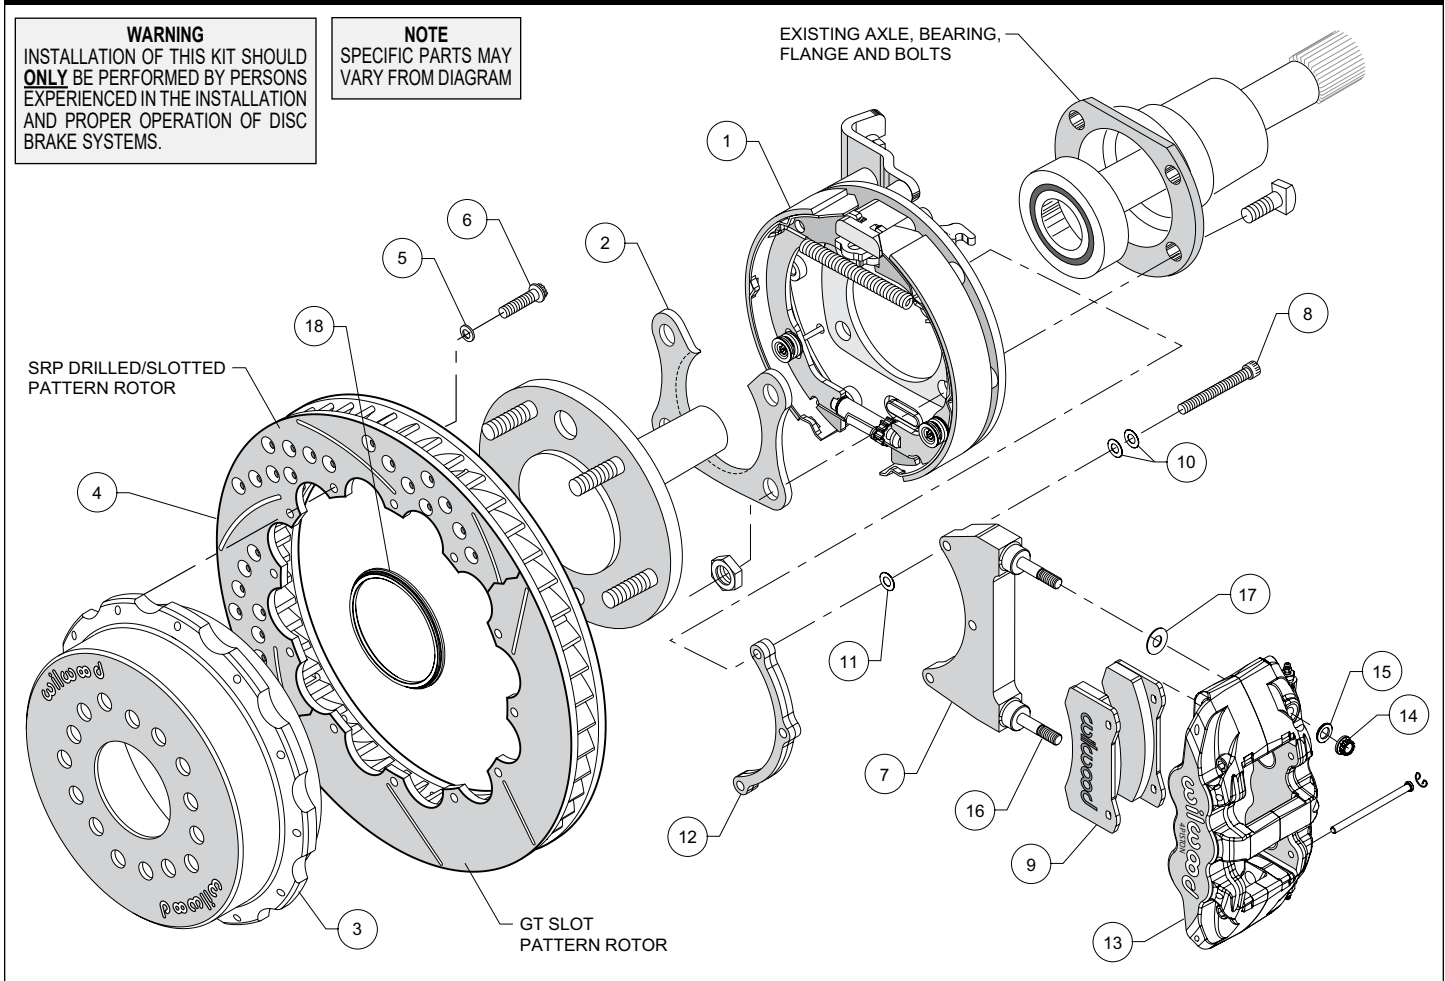

Figure 1. Typical Installation Configuration
- Orient the bracket assembly (1) as shown in Figure 1 and slide it onto the axle. Insert the axle and bracket into the axle housing. Ensure that the bracket assembly backing plate fits flush against the axle housing flange.
- Install the bearing retainer (2) with the opening pointing upward and the lip facing inward (toward the bearing), as shown in Figures 1 and 4. Secure retainer and bracket assembly to the
axle housing flange using the Original Equipment Manufacturer (OEM) bolts and nuts, Figure 1. Apply red *Loctite*® 271 to the OEM bolt threads and torque to OEM specifications.
- NOTE:** Please reference the caution statement at the beginning of the assembly instructions. The caliper mounting bracket assembly (7) should be installed first with clean, dry threads on the mounting bolts (8). Install the bracket from the rear side of the bracket kit assembly (1) by sliding bolt (8) through two flat washers (10) bracket (7), shim washer (11) and finally through the spacer (12), see Figure 1. **NOTE:** End of bolt should not exceed inside face of insert. The bracket must tighten squarely against the back side of the bracket kit assembly (1). Inspect for interference from casting irregularities, machining ridges, burrs, etc. Use one thin shim (11) between the bracket (7) and spacer (12) during initial trial fitting.
- Lubricate caliper mounting studs and nuts with lightweight oil. Install one washer (17) over each pre-installed stud (16) on the radial mount bracket (7). Slide the caliper (13) in place over the studs and rotor, then install the washer (15) and lock nut (14) to hold the caliper in place. The caliper bleed screws should be pointing up. Snug the lock nuts (14) and check that the rotor (4) is centered in the caliper (13). Add or subtract .015" shims (11) as necessary between the caliper mounting bracket (7) and the spacer (12) to center the caliper (9).
- Remove the two pad retaining pins from the caliper (13) by carefully popping out the pin retaining clips and sliding out the pins. Insert the brake pads (9) into the caliper from the bottom, Figure 1. With the friction material facing the rotor, secure the brake pads in place with the pad retaining pins and clips. Reinstall the caliper onto the caliper mounting bracket and temporarily tighten the lock nuts. Check that the top of the brake pad is flush with the outside diameter of the rotor. If not, adjust by adding or subtracting shims (17) between the caliper and the bracket.
- Adjust the parking brake shoes outward (using a drum shoe adjustment tool available at your local auto parts store) while spinning the hat (3) until a slight drag is felt against the hat/drum. Remove the lug nuts that were holding the hat/rotor in place. Install the wheel and lug nuts. Check to see that the wheel rotates freely without interference.
- Once all clearances have been checked, remove the wheel, caliper, hat/rotor from the bracket kit assembly (1). Secure the caliper mounting bracket (7) to the bracket kit assembly (1) using